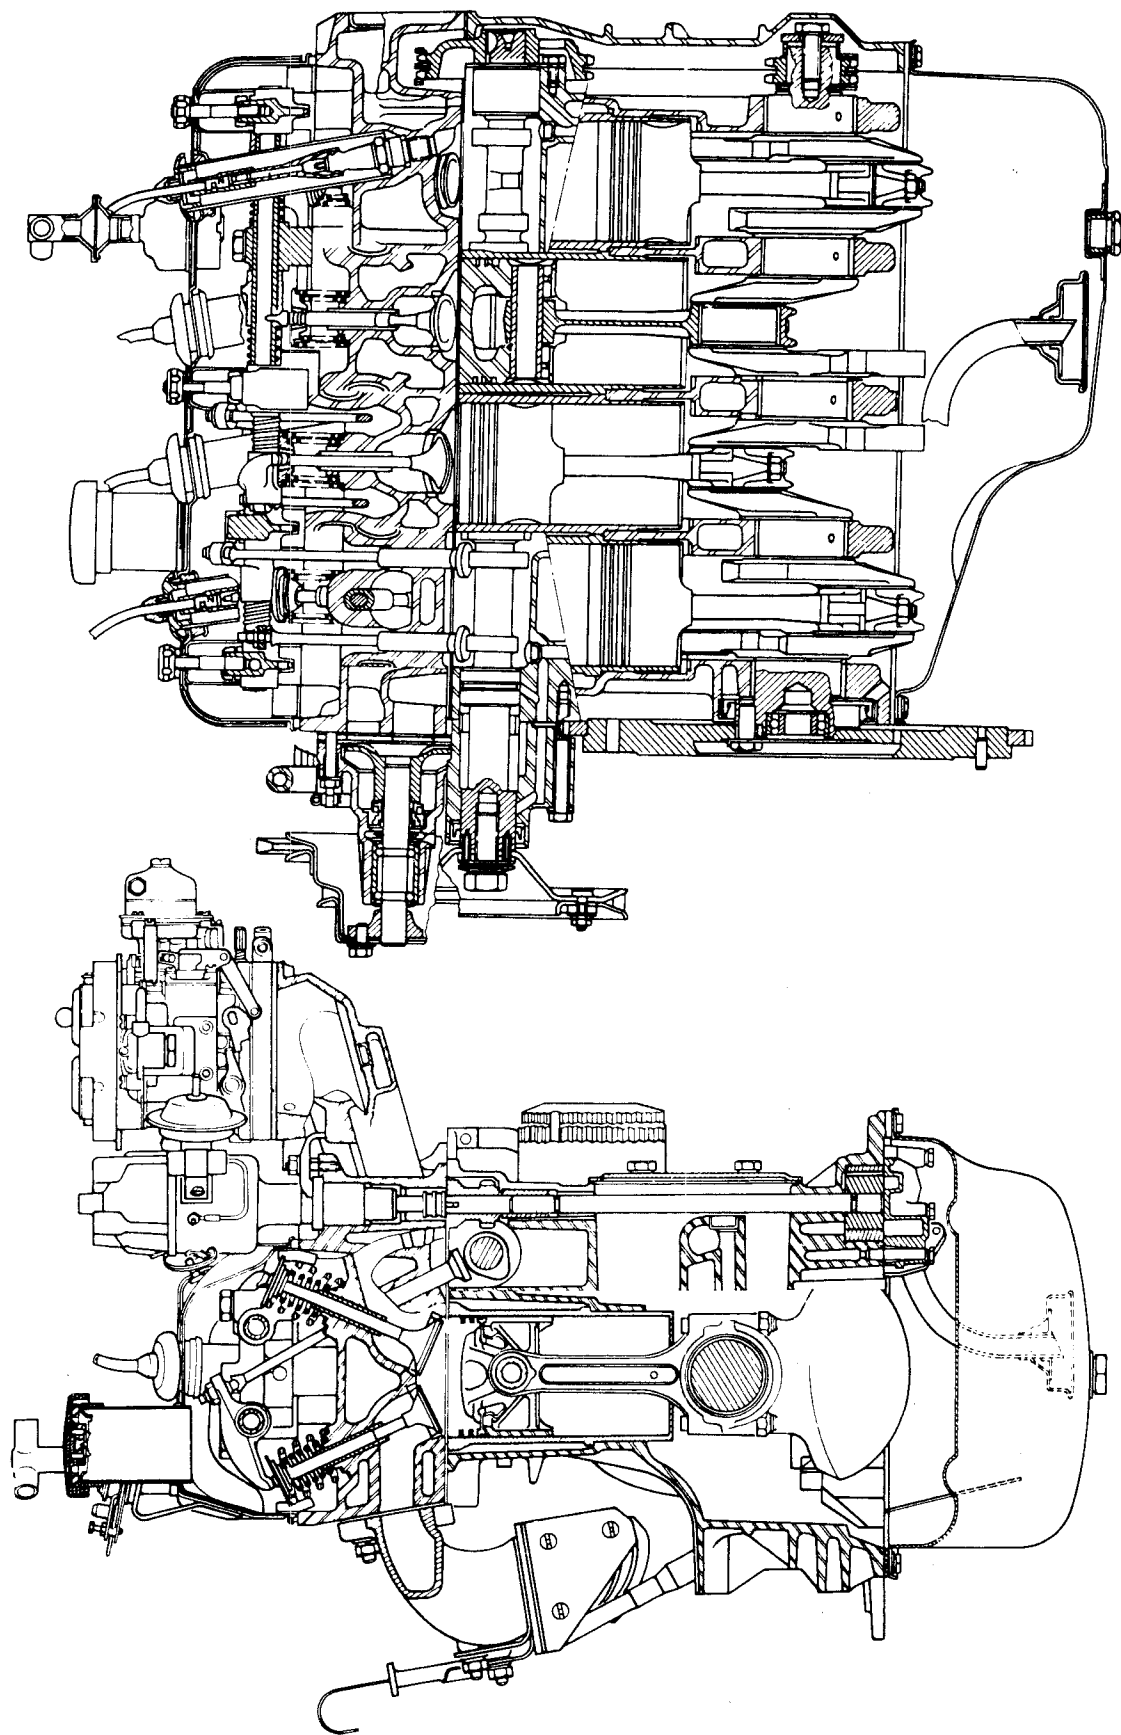

Fig.1.1 Sectional views of the type 807 engine
- 11 Sectional views of the type 807 and 697/821 engines are shown in Figs.1.1 and 1.2.